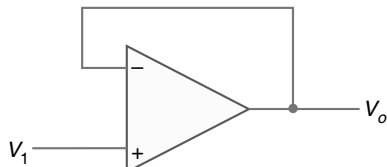

Fig. 23.107
14. What output voltage results in the circuit of Fig. 23.107 for  $V_1 = +0.5 \text{ V}$  ? [ $V_o = 0.5 \text{ V}$ ]